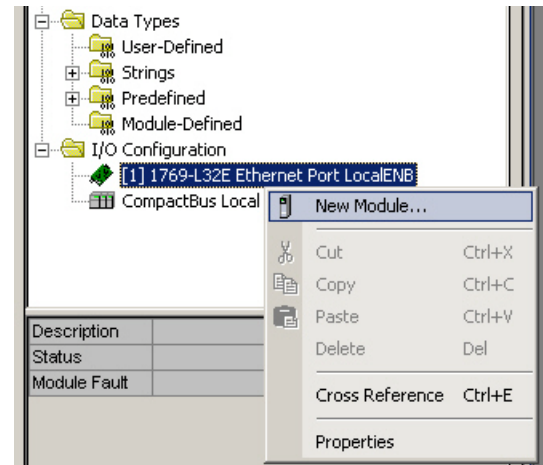

Figure 6.3 Adding an SD17060E
- 1) As shown in figure 6.3 on the right, the Ethernet port will be listed under the I/O Configuration tree. Right click on the port and then click on “New Module...” in the pop-up menu.